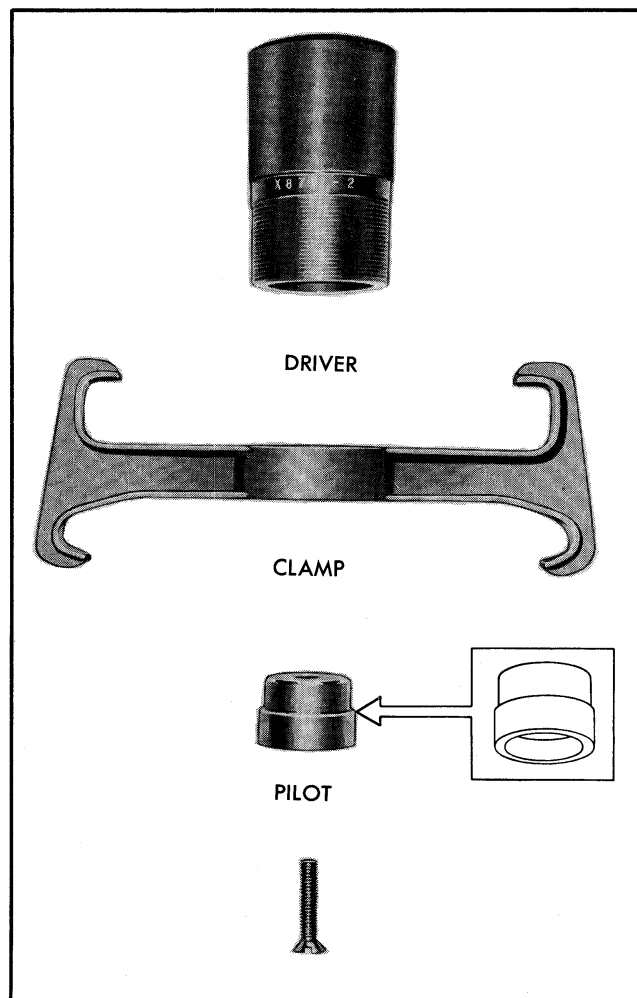
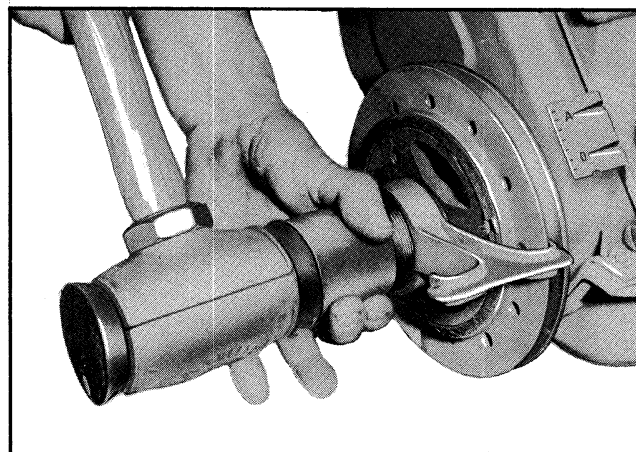

Fig. 6-41 Harmonic Balancer Installer
Fig. 6-42 Installing Harmonic Balancer
2. Attach balancer installer tool X-8792 (Fig. 6-41) to balancer (Fig. 6-42).
3. Position balancer on crankshaft and drive into position until it bottoms against crankshaft gear. Remove installer tool (Fig. 6-42).